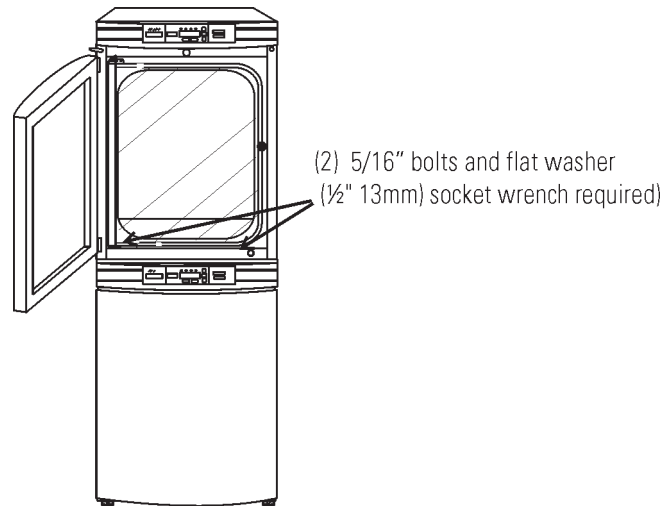

Figure 1-7. Align Slots and Bolts
5. Align the sides of the top unit and bottom unit and slide the top unit forward until the slots in the base of the top unit align with the 5/16" - 18 stacking bolts in the exterior top of the bottom unit (Figure 1-7).